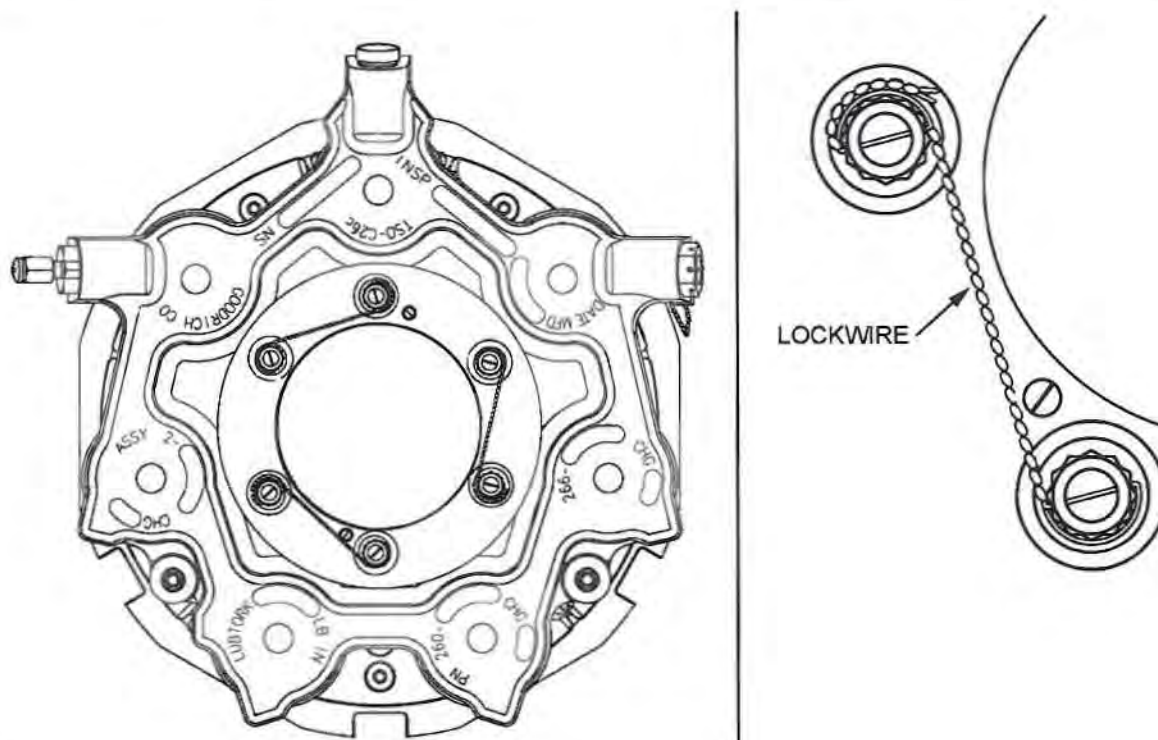

Figure 1. Lockwire Pattern for Bolts
(1) Loosen all of the nuts to zero torque.
(2) Torque all of the nuts again.
I. Lockwire the bolt heads together with lockwire, P/N MS20995C32 (refer to Figure 1).